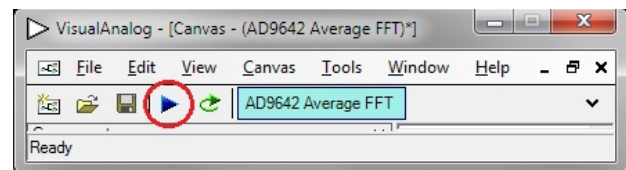

Figure 13. Run Button (Encircled in Red) in VisualAnalog Toolbar, Collapsed Display
6. Click the **Run** button in the **VisualAnalog** toolbar (see Figure 13).
If the FFT window remains blank after **Run** (see Figure 13) is clicked, do the following: